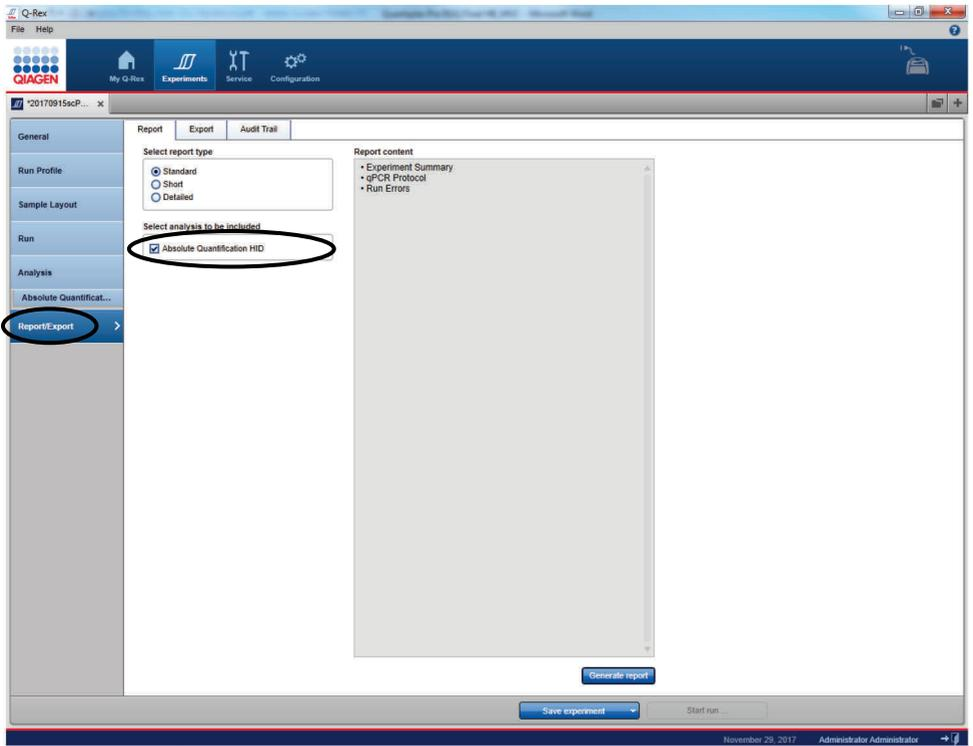

Figure 34. Exporting data in Q-Rex.
17. To export the results in .csv format for further analysis with the QIAGEN Quantification Assay Data Handling Tool, click on the left side in the step marker on “Report/Export” (Figure 34).
18. Confirm that the analysis method "Absolute Quantification HID" has been selected (Figure 34).